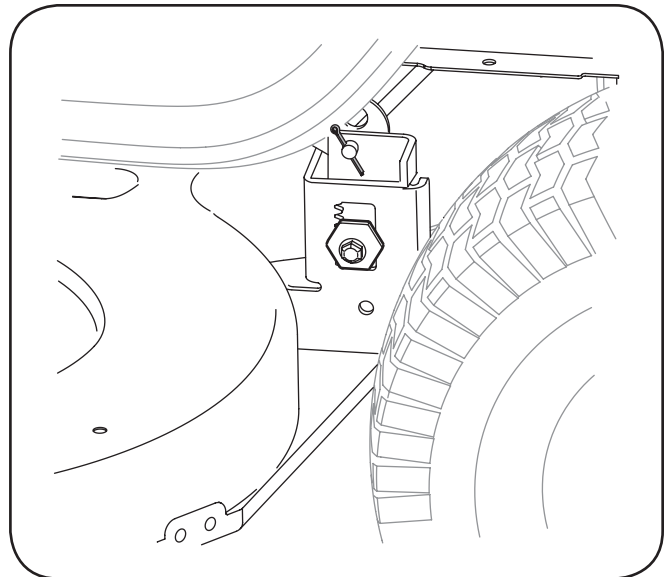

Figure 7-2
5. Looking at the cutting deck from the left side of the tractor, locate the cotter pin that secures the deck support rod on the rear left side of the deck. See Fig. 7-2. Remove the cotter pin that secures the deck support rod, and carefully remove the deck support from the deck lift arm.